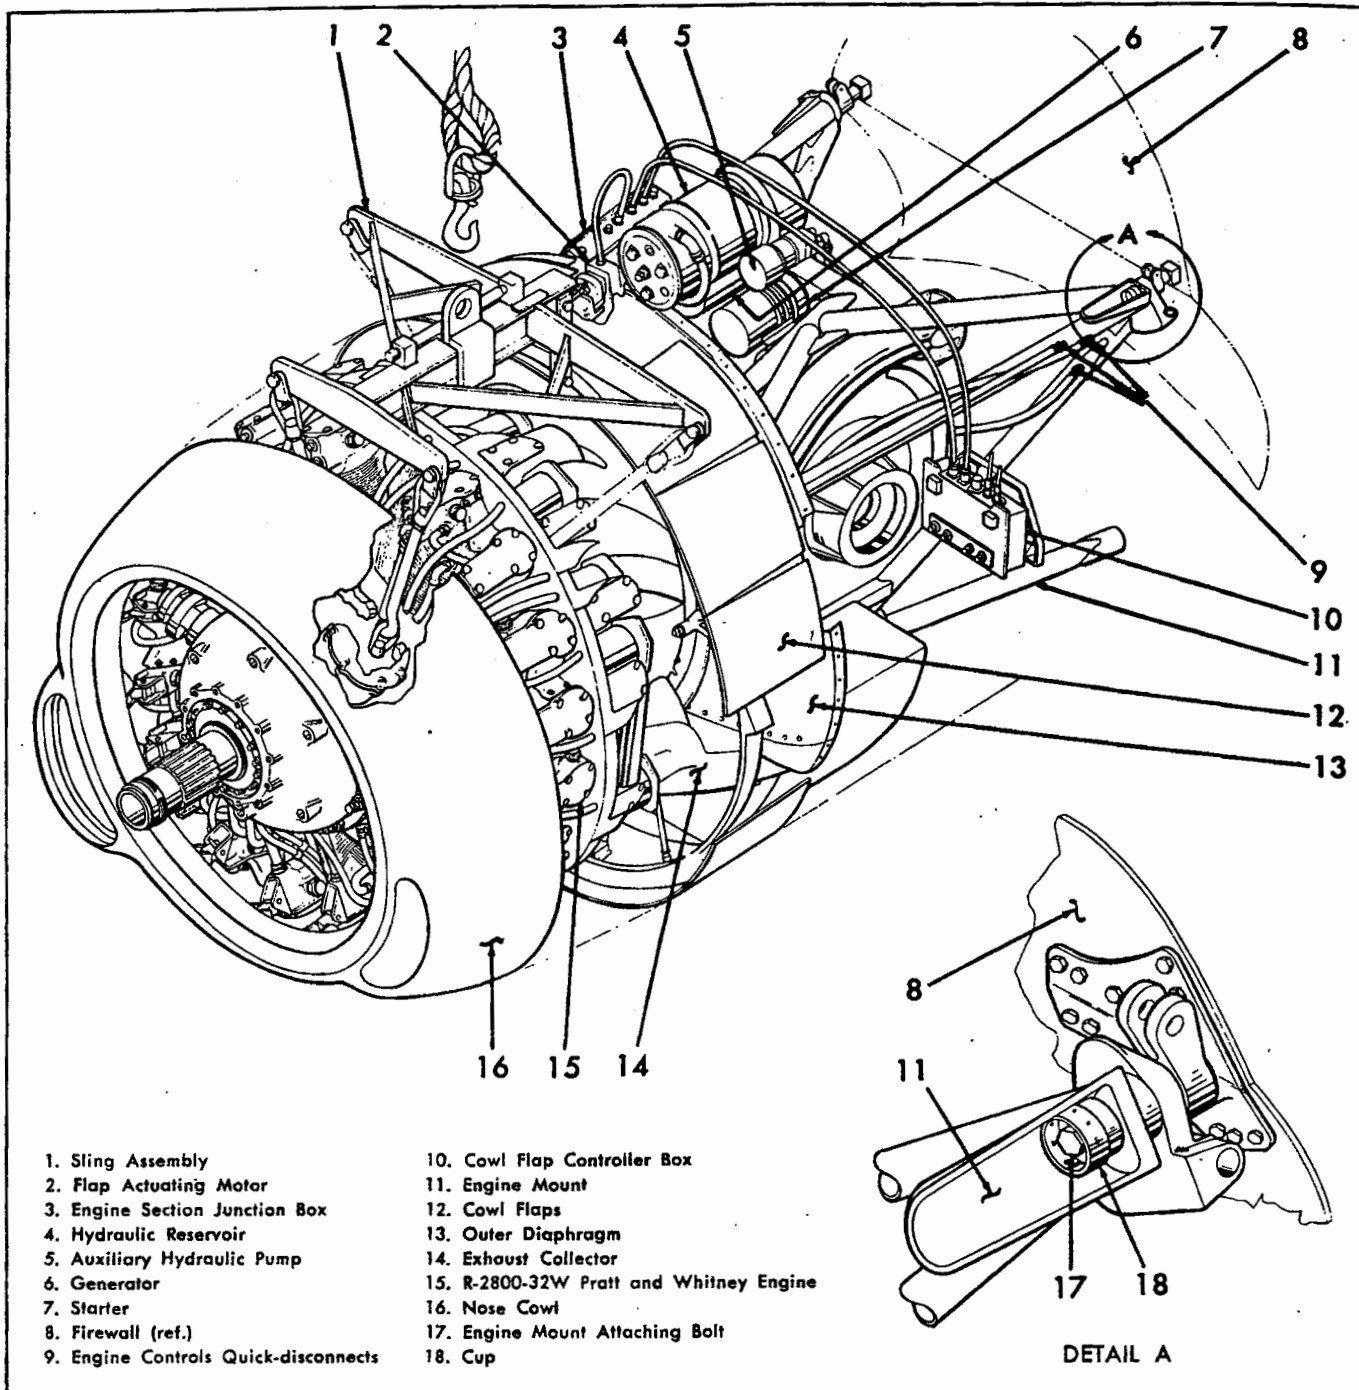

Figure 4-62. Engine Quick-change Unit.
4-499. DESCRIPTION. (See figure 4-62.) The power plant group, usually referred to as the engine quick-change unit, consists of an R-2800-32W Pratt and Whitney engine, the split engine mount, nose cowl, cowl flaps, engine accessories, and hydraulic and electrical equipment. The entire assembly may be quickly removed or installed as one unit. The power plant group extends aft from the propeller to the firewall, the engine mount being attached to the upper portion of the firewall at
4-501. REMOVING ENGINE QUICK-CHANGE UNIT. (See figure 4-62.)
k. The bolt heads are locked by cups. Place the cups over the heads, concave surface pointing forward. Secure the cups with steel cotter pins. The cotter pins go through the cups and the engine mount sockets. (See figure 4-62.)